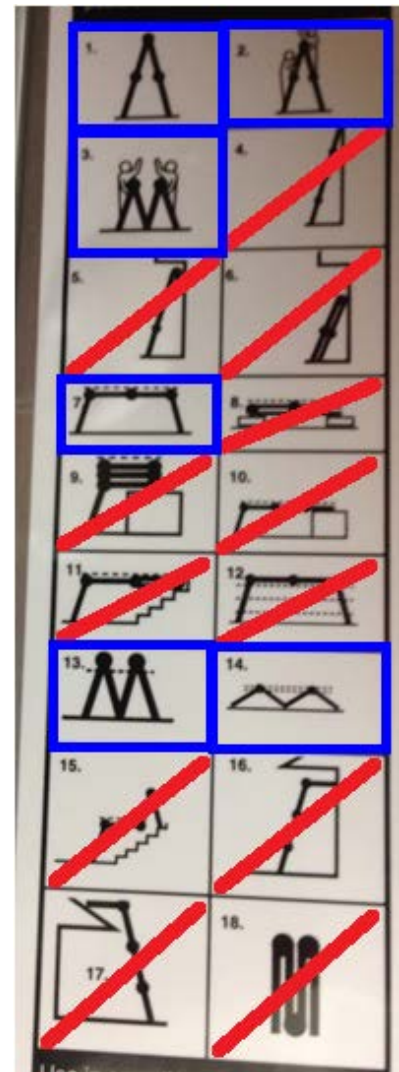

Figure 1.1
- 5) Only ladder positions 1, 2, 3, 7, 13, 14 (in Figure 1.1) are allowed.